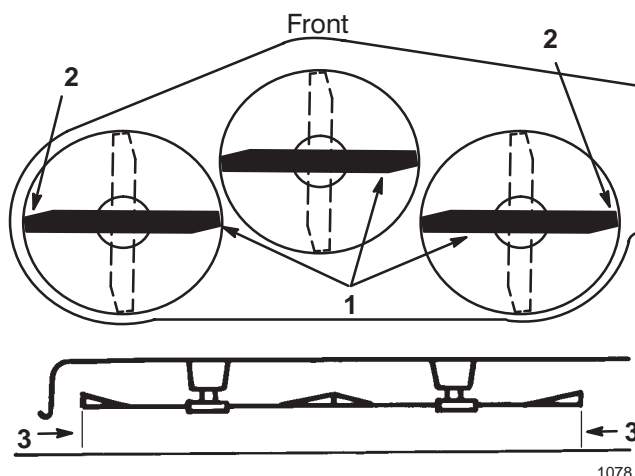

Figure 34
4. Carefully rotate the blade(s) from side to side (Fig. 34). Measure between the outside cutting edges and the flat surface (Fig. 34). If both measurements are not within 3/16 in. (4.75 mm), an adjustment is required; refer to steps 5 and 6.